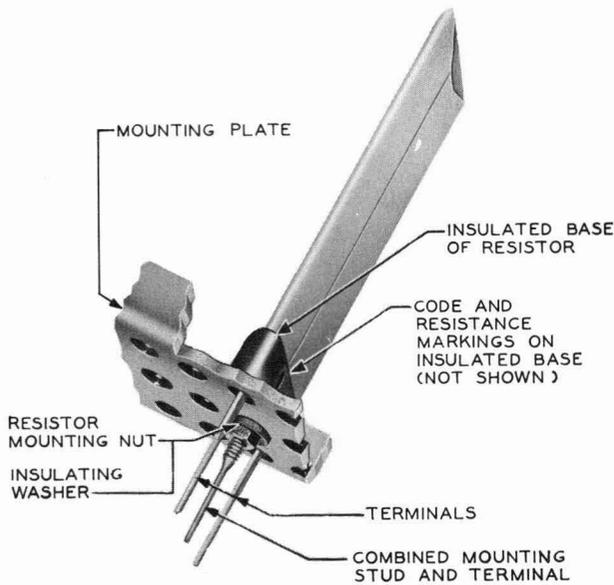

Fig. 1 — Mounting of 18- and 19-type Single Stud Resistors (19-type Resistor Shown)
3.03 *Mounting Resistor: Fig. 1*— If the resistor is to be mounted vertically, it should be positioned on the mounting plate with the code and resistance markings at the left as viewed from the apparatus side of the mounting plate. If the resistor is to be mounted horizontally, the markings should be at the top. Insert the resistor mounting stud and terminals through the proper holes in the mounting plate. From the wiring side of the mounting plate, hold one of the resistor terminals and position the resistor so that the projections on the insulated base are fully seated in the mounting plate holes. Place an insulating washer on the mounting stud and securely tighten the nut using the wrench portion of the No. 48 combination wrench and screwdriver.